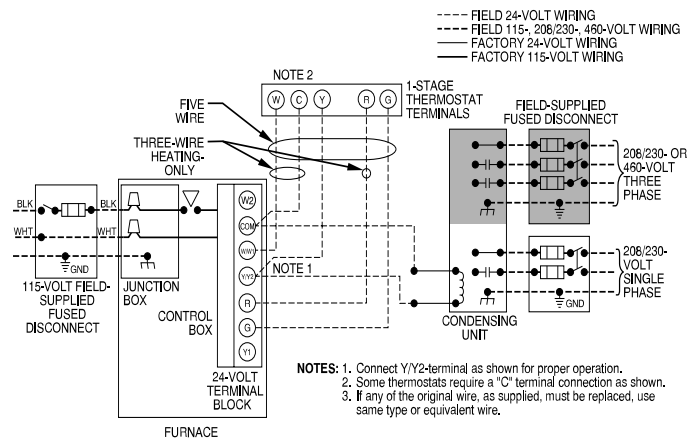

Fig. 32 – Typical Field Wiring Diagram
See Fig. 32 for field wiring diagram showing typical field 115-V wiring. Check all factory and field electrical connections for tightness. Field-supplied wiring shall conform with the limitations of 63°F (33°C) rise.
6. Connect power cord power and neutral leads to furnace power leads as shown in Fig. 32.
5. Connect field power and neutral leads to furnace power leads. as shown in Fig. 32.
Make field 24-V connections at the 24-V terminal strip. See Fig. 37. Connect terminal Y/Y2 as shown in Fig. 32 for proper cooling operation. Use only AWG No. 18, color-coded, copper thermostat wire.